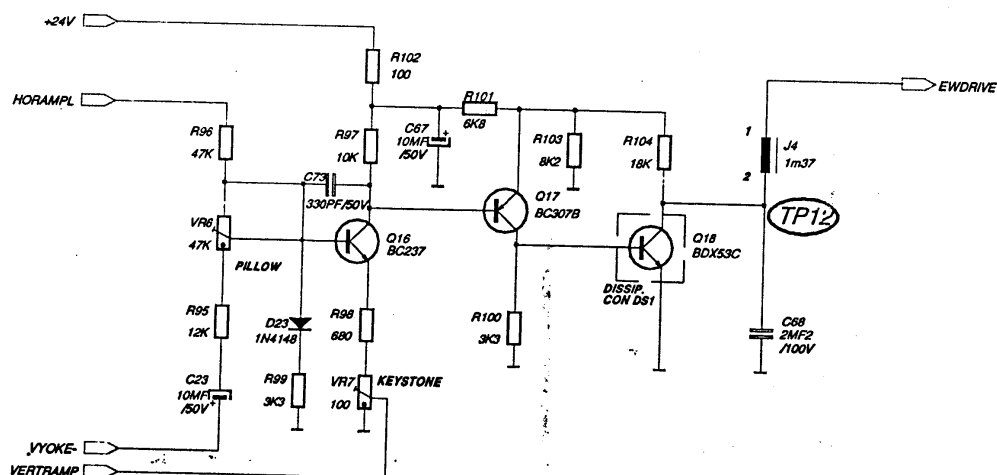

Fig. 5 – Monitor Standard (15 kHz)
2. Transistor Q16 = BC237; Q17 = BC307; Q18 = BDX53C (Fig.5).
3. Insulator Q18 (Fig.5)
4. Coil J4 (Fig.5)